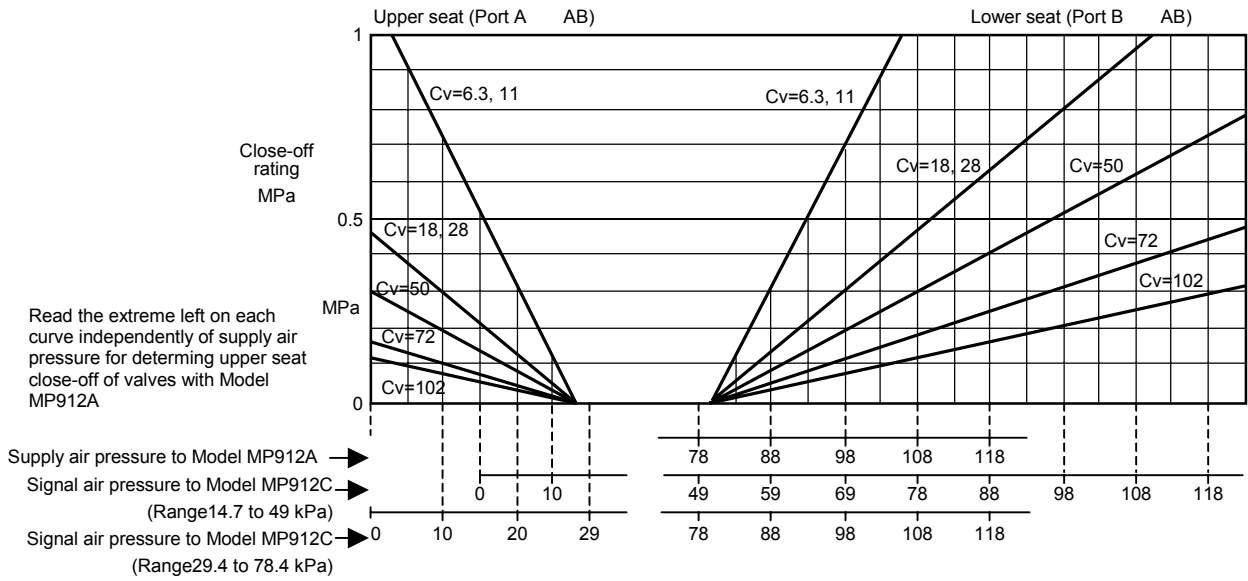

Fig. 1 Close-off ratings – when using with Model MP912A,C
Close-off ratings	Refer to Table 1 and Figs. 1 to 4
A. For Model MP912 or Model MP953 125 (A) a linkage is not required and the actuator can be directly installed on the valve. The stem button screwed on the top of the stem is locked in the exact position at the factory. If the position is shifted, reset it to the position specified in Fig. 1 'L₁'. Refer to the instruction of each actuator for details.